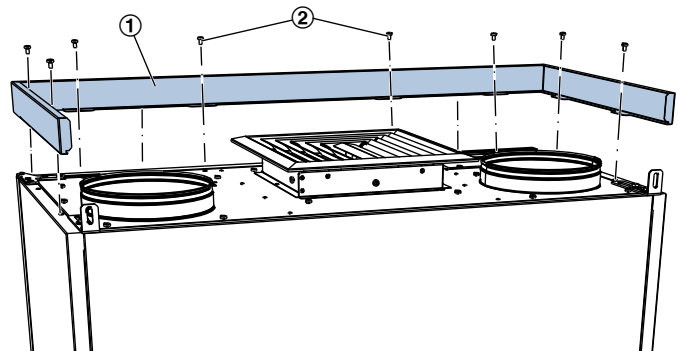
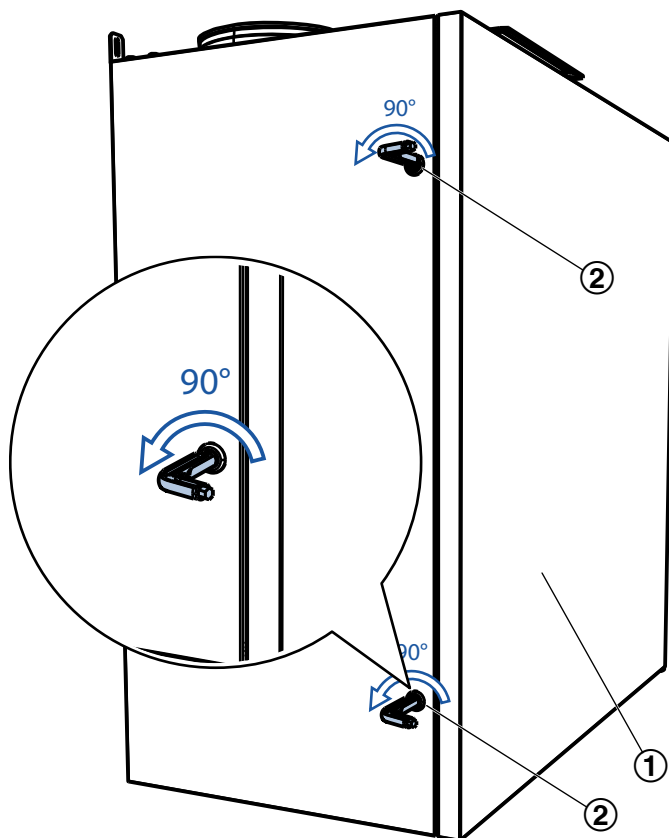

Fig. 8: Disassembling the matching rear frame
Fig. 9: Opening the fastener
2. ▶ Loosen the screws (Fig. 8 /2) on the top of the device from the matching rear frame. Remove the frame (Fig. 8 /1) and store for later assembly.
3. ▶ Open the locks of the inspection access door (Fig. 9 /1) on the top part of the device (Fig. 9 /2).
4. ▶ Dismantle the hinge (Fig. 8 /1) by loosening the screws (Fig. 8 /2). Remove the inspection access door (Fig. 9 /1) and store it for later assembly, keep the spacer plates (Fig. 8 /3) and the slide disc (Fig. 8 /4).
16.▶ Place the cover frame (Fig. 8 /1) on the top part of the device and fix it with screws (Fig. 8 /2).